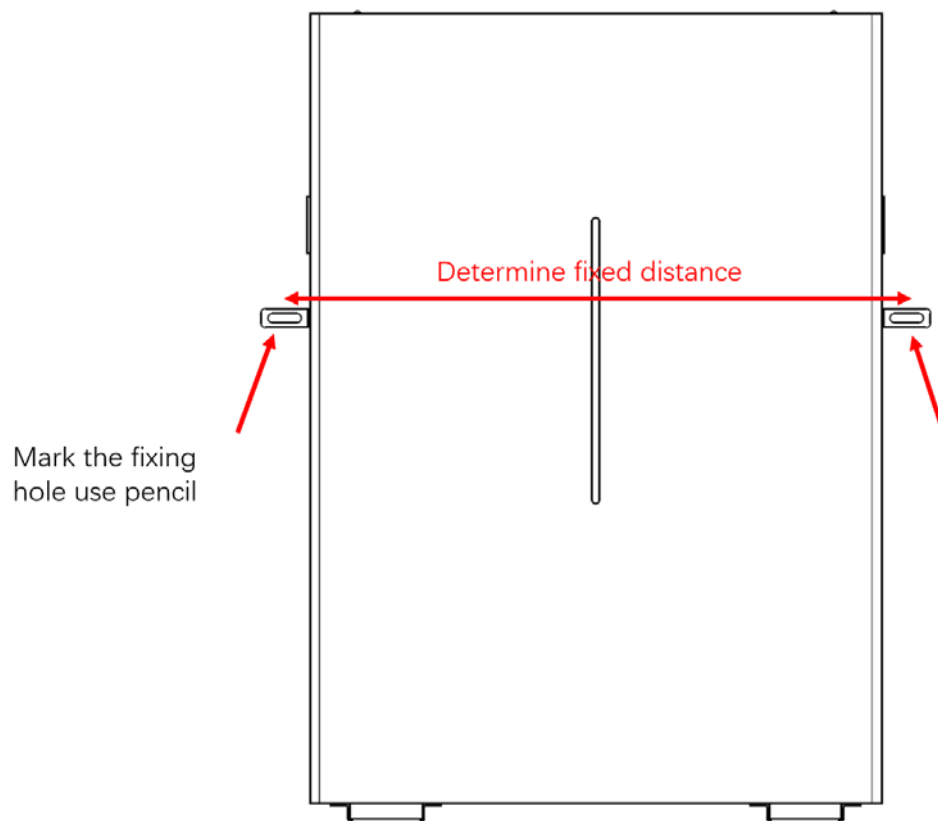

Figure 5-5
b)Stand the battery on the side of the wall, mark the location of the fixing hole, Choose the recommend drill head (as shown in below picture) to drill 2 holes on the wall,100-110mm deep, as shown in Figure 5-2 and Figure 5-5.